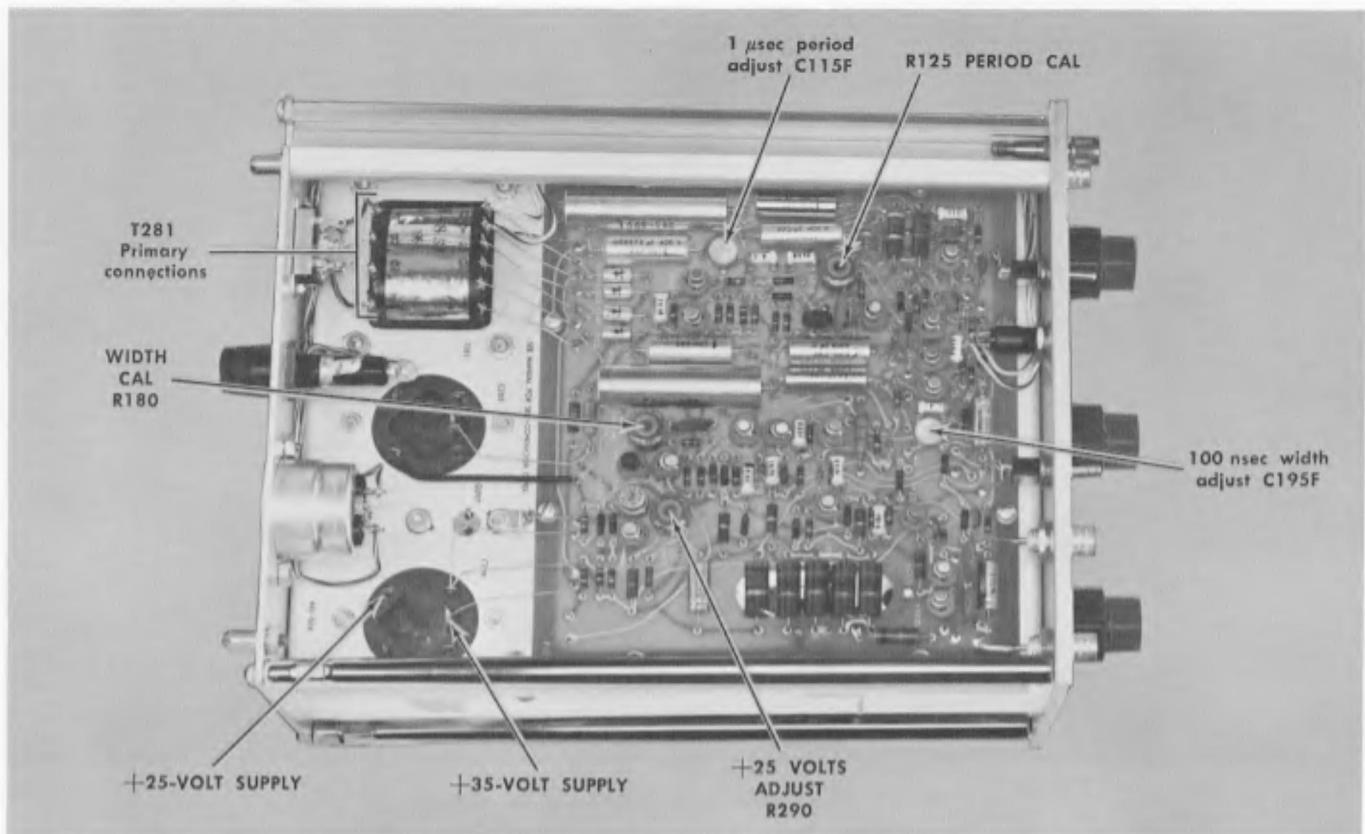

Fig. 4-3. Type 114 chassis, bottom view.
5. Using the VOM, check the resistances between chassis ground and the points indicated in Table 4-1 (see Fig. 4-3).